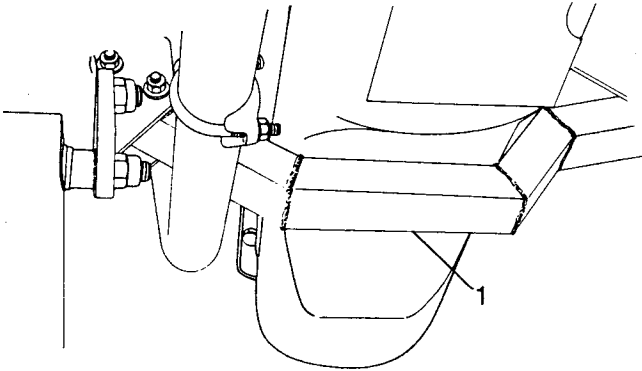

Fig B4.85
- (3) Refer to Fig B4.85. Remove the engine mounting member (1) across the sump (four bolts, washers and locknuts).
- (4) Drain the engine oil (see Sub-section B6).